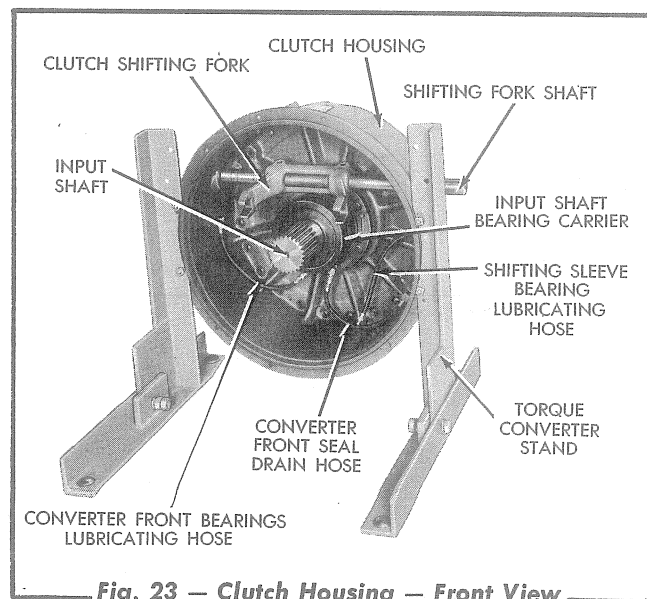

**Fig. 22 — Removing Turbine Housing from Clutch Housing**
2. Position the assembly on a stand with the turbine housing up as shown in Fig. 22 and remove the remaining nut and lockwasher through the opening in the clutch housing. If a stand is not available, use suitable blocks under the clutch housing so that the input shaft will clear the bench.
3. Using a short chain or lifting bracket as shown in Fig. 22, attached to the turbine housing with two of the bearing retainer capscrews, the turbine housing assembly may now be removed with a suitable hoist. **CAUTION:** *Use care and raise the housing assembly straight up so as not to damage the turbine or the impeller wheels and the over running clutch and roller assembly. Care must also be taken so as not to lose any of the clutch rollers which will fall free from the clutch roller cage as the turbine housing is raised.*